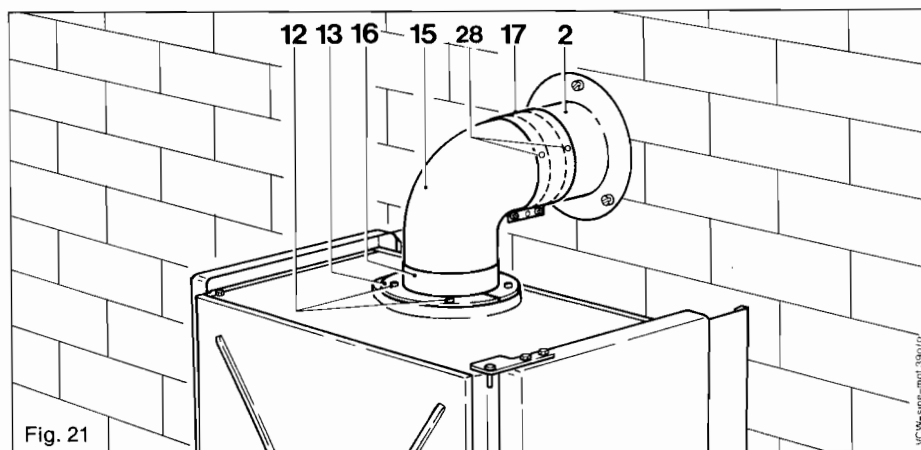

Fig. 21
- Remove two screws (12) and take off half-ring (13).
- Place a clamp (63 mm dia.) (14) loosely over the flue duct (1) and a further clamp (14) over the flue gas connection on the appliance.
- Remove screws and sealing washer on clamp ring 17, fig. 21 (dia. 95 mm x 55 mm wide) and slide over air duct (2).
- Remove screws and sealing washer on clamp ring 16, fig. 21 (dia. 95 mm x 25 mm wide) and push over the duct elbow on the side which is to be connected to the appliance. Ensure the clamp ring is clear of the end of the elbow.
- Push twin duct elbow (15) into the clamp (14) on the flue connection of the appliance.
- Pull clamp (14) over the butt joint between the flue duct (1) and the flue gas elbow and tighten lightly.
- Ensure that the elbow (15) is closely butted to the appliance. Ensure that the flue duct (1) is closely butted to the elbow (15) and has not been displaced outwards through the wall.
- Tighten screws on both flue duct clamp rings (14) in order to firmly secure the elbow and flue duct to the appliance.